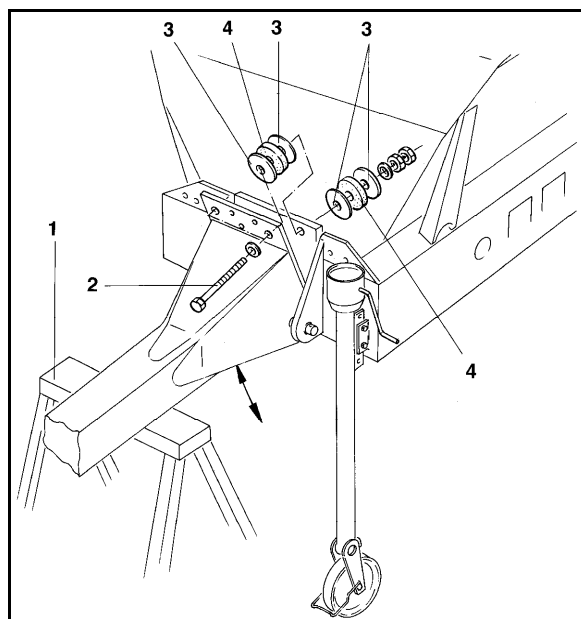

Fig. 49
2. Support the drawbar on a stable trestle (Fig. 49/1) and unscrew both securing screws (Fig. 49/2).
3. The spacer discs (Fig. 49/3) can be turned evenly to adjust the drawbar. The buffers (Fig. 49/4) must not be removed. They absorb any impact transferred from the tractor to the spreader.